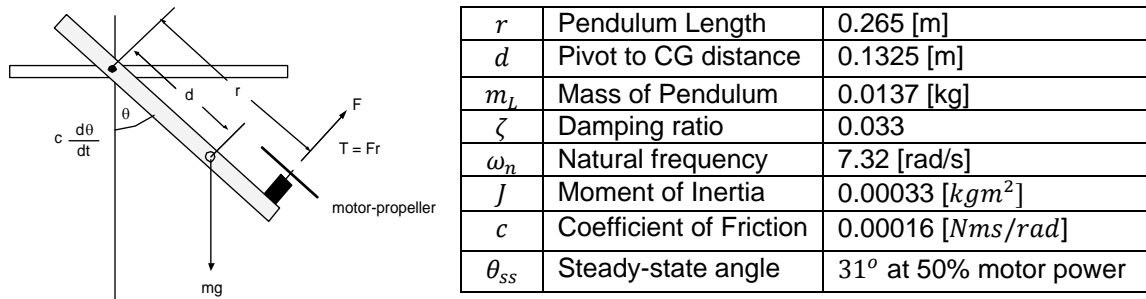
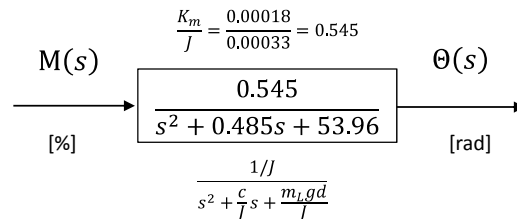

Figure 1-1a: DCP free body diagram (left) and both physically measured and calculated values (right)
Figure 1-1c: Transfer function relating the motor input (as a percentage) and angle output (in radians)
Previously, one captured both the step and free fall response of the LEGO Damped Compound Pendulum (DCP). Using the logarithmic decrement equation and the DCP's physical measurements, one calculated the damping ratio, coefficient of friction, and moment of inertia (**Figure 1-1a**). Such system identification can now be used to determine the DCP (i.e. plant) transfer function. Equipped with this transfer function, one can use simulation tools, like Simulink, for future controller design.
In the previous lab, as shown in Figure 1-1a (last row of table), for a $M(s) = 50\%$ step input, yielded a $\theta_{ss} = 31^\circ$. Substituting this into (6) and (5) yields
Using the values from (7) and the table in **Figure 1-1a**, the resulting block diagram is given in **Figure 1-1c**.
- 1.1 Redo the table in Figure 1-1a, using the values you observed and calculated
- 1.3 Sketch Figure 1-1c, using and answers to 1.1 and 1.2
Using the Library Browser, click Continuous, select and drag the Transfer Fcn block into the canvas (**Figure 2-2A left**). Double-clicking any white space in the canvas, allows one to add text. Commenting your program with details is a good practice. Double-clicking the Transfer Fcn block pops-up the Block Parameter box. Referring to **Figure 1-1C** and your answers from **Exercise 1-3**, enter the Numerator and Denominator coefficients (**Figure 2-2A right**).
Figure 2-2: Transfer Fcn block and text comments in the Simulink canvas (left). Double-clicking the Transfer Fcn block reveals the Block Parameters pop up box (right). The numerator and denominator coefficients were entered using derived values shown in **Figure 1-1C**.
Figure 2-5A: Simulink output (left) shows steady-state $\theta_{ss} \approx 31^\circ$. In the previous lab, an experimental step response was captured and plotted (right). The two show similarities, given confidence in the transfer function derived in **Figure 1-1C**.